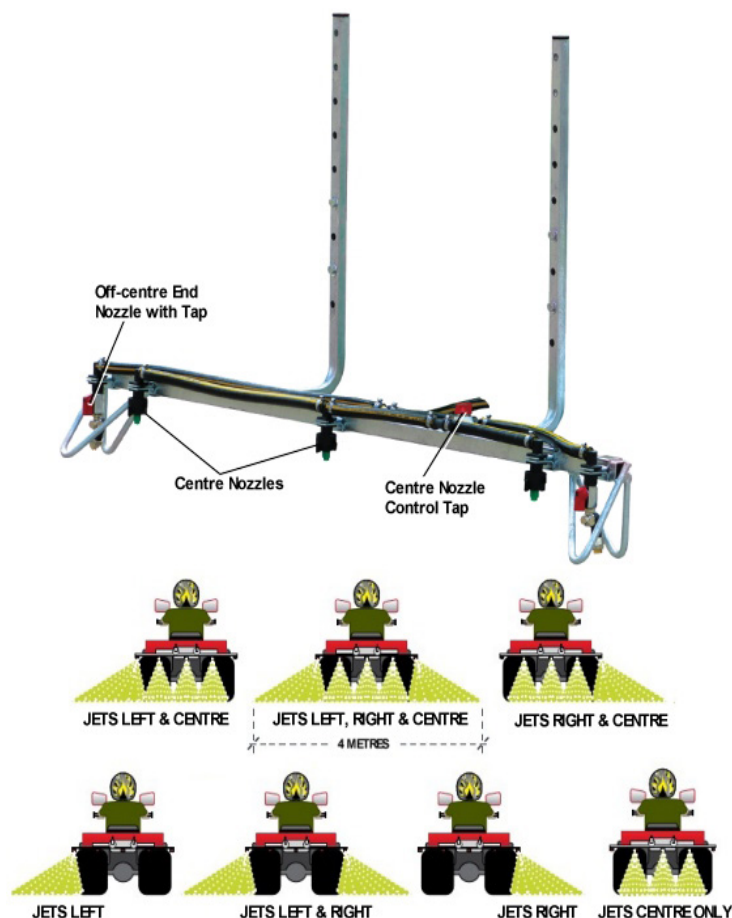

Figure 9 – Spray Boom Details
1. Set the required spray selection by opening or closing the individual control valves on the spray nozzle lines, refer to Figure 9.